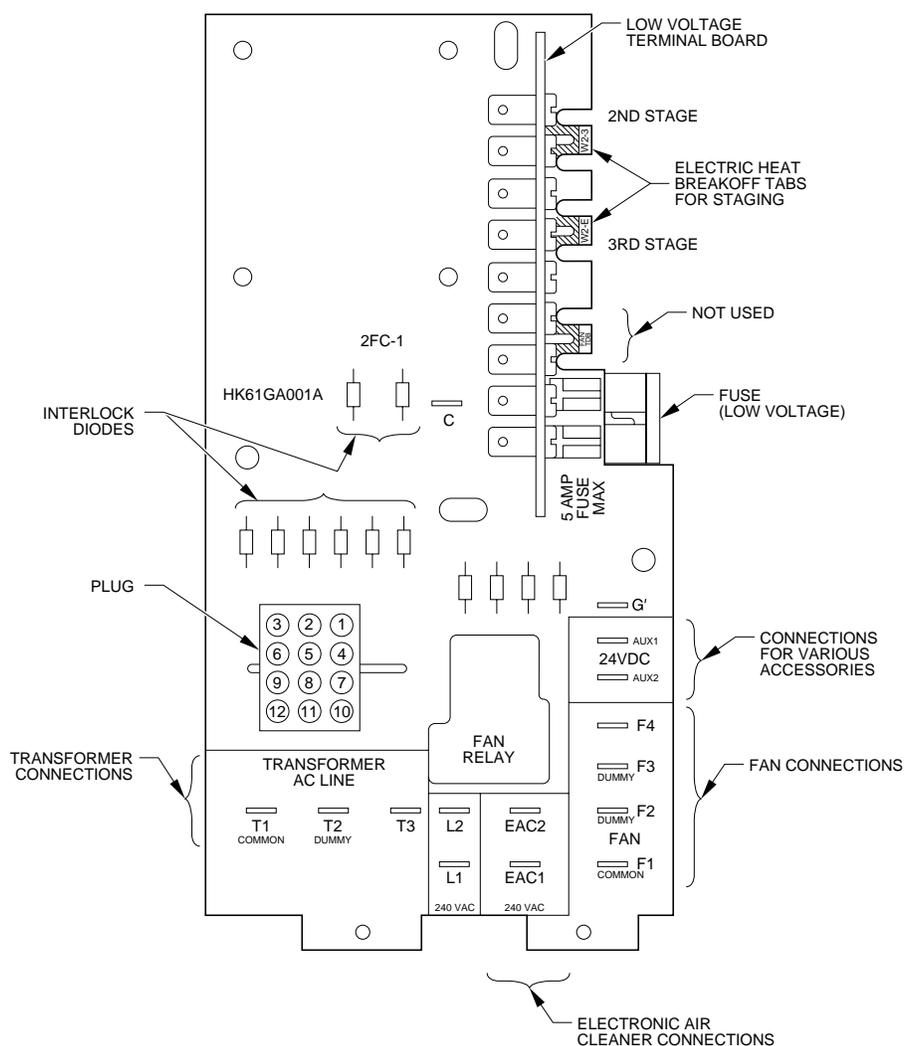

Fig. 32—HK61GA001 Printed Circuit Board
Layout of the actual printed circuit boards are depicted in Fig. 32 and Fig. 33.
3. Check the low-voltage fuse shown in Fig. 32 and Fig. 33. If the fuse is blown, replace it. The transformer cannot supply power to the board with the fuse blown or loose. If the fuse blows when the unit has power applied to it, the system most likely has 1 of the following problems: